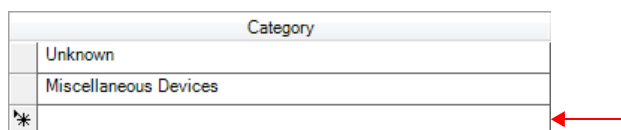

FIG. 26 Category Manager Dialog - New Category Entry
3. Click **Add**. This action adds a new (empty) entry to the list of Categories (FIG. 26):